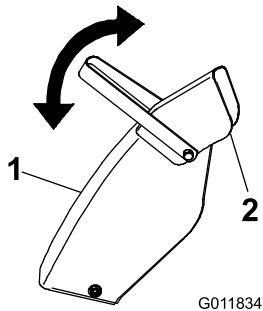

Figure 7
- The chute deflector, on top of the discharge chute, can be moved up and down to control the height and distance snow is thrown (Figure 7).